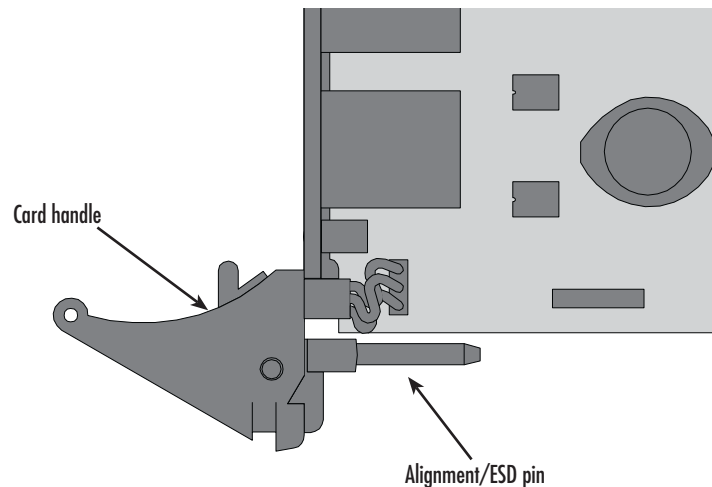
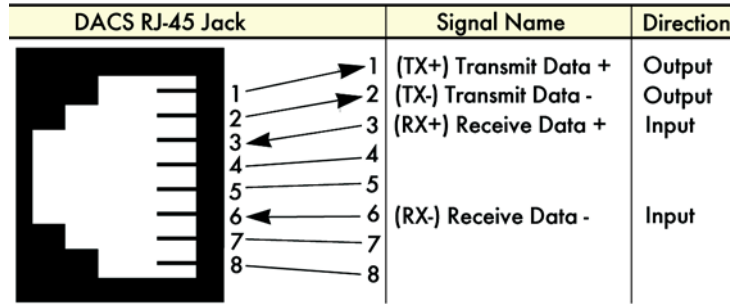

Figure 5. Alignment/ESD pin and card handle
Figure 7. Ethernet RJ-45 pin and signal definitions for T-DAC
3. Gently press the blade into the chassis until the alignment/ESD pin (see figure 5) engages the chassis. When the blade is fully seated, the red buttons in the handles click up automatically, thus locking the handle and activating the switch (closed position). The click of the button gives a visual and audible confirmation that the board is fully seated.
The 10/100Base-T Ethernet port (see figure 5) is designed to connect to an Ethernet switch or hub. The Ethernet RJ-45 pin and signal definitions for the T-DAC or for a NIC card in a workstation/PC are shown in figure 7 on page 28. Connect a straight-through CAT-5 cable (one wired as shown in figure 7) between the T-DAC and the hub/switch.